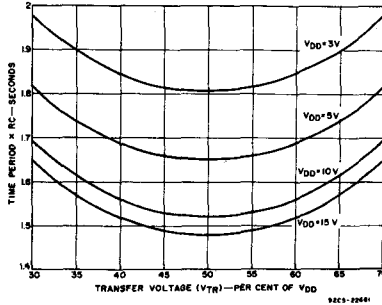

Fig. 3—Discrete RC-oscillator time period as a function of transfer voltage.
Equation (1) shows that the period of the multivibrator, T, is sensitive to changes in V_{DD} , as illustrated by the graph of time period, T, vs transfer voltage as a function of V_{DD} in Fig. 3. In addition to the strong dependence of actual time period on the V_{DD} chosen, the graph also illustrates that, for a given V_{DD} , a full transfer voltage spread of 30 to 70 per cent of V_{DD} (unit-to-unit worst-case variations) yields a change in time period of about 10 per cent from the nominal 50-per-cent transfer-voltage percentage values.